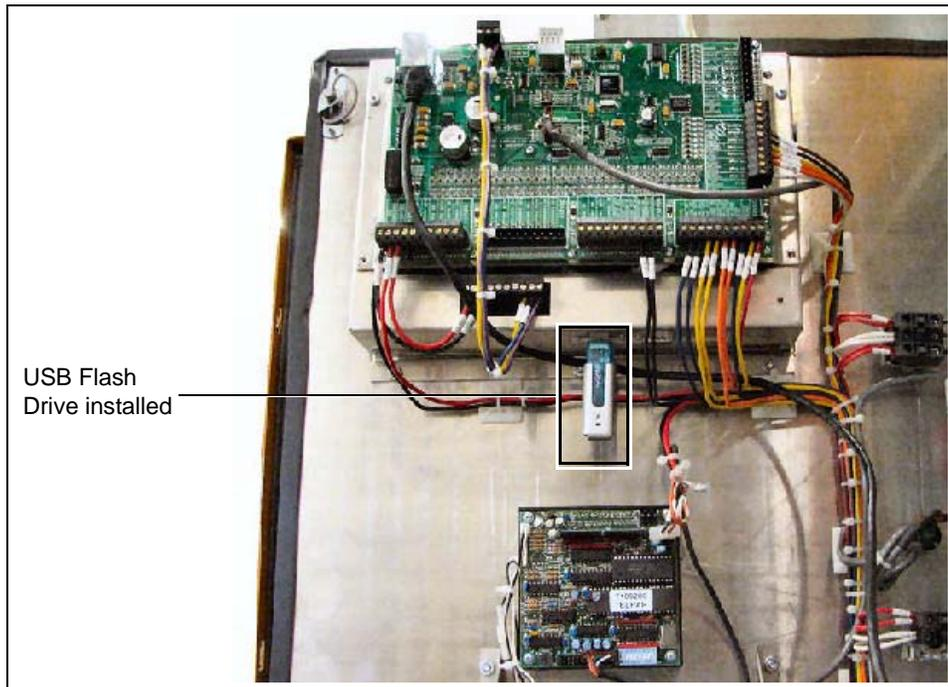

Figure 2 USB Flash Drive Inserted in the USB Port
2. Insert USB flash drive into USB port. (See Figure 2.)